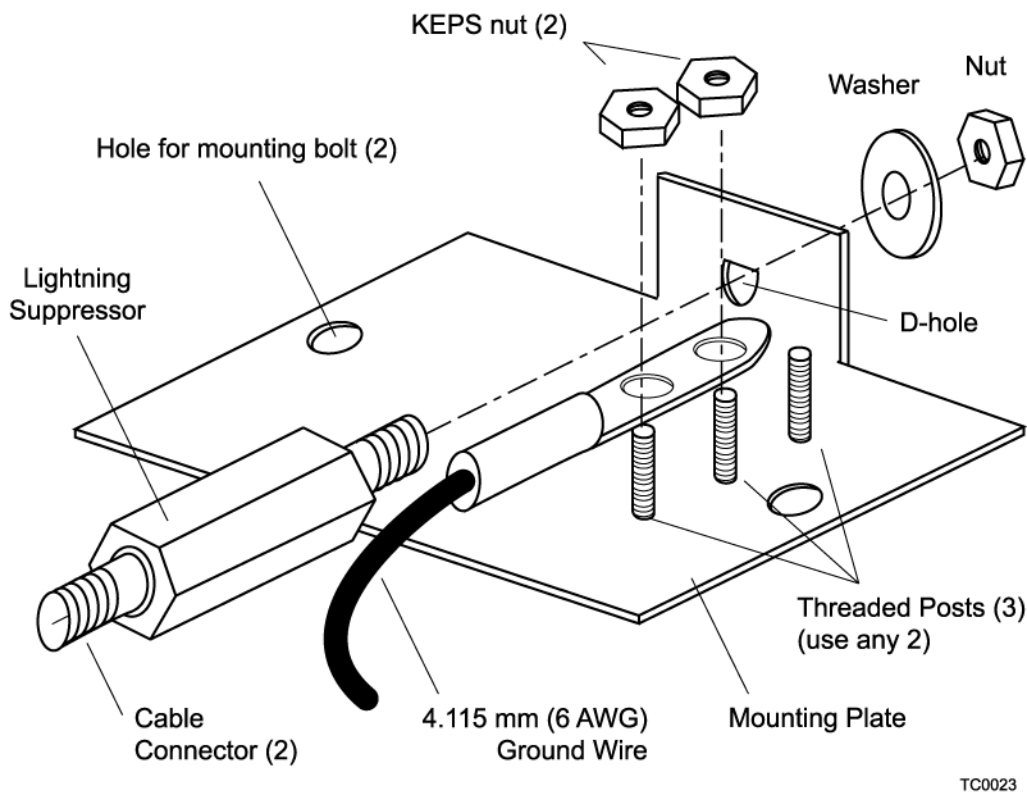

Figure C-6. Assembling the Lightning Suppressor
10. Assemble the lightning suppressor as shown in Figure C-6.